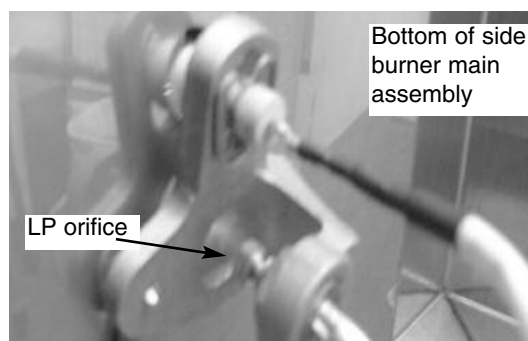

Fig 10
17. From the bottom of the side burner place the LP orifice into the main burner assembly, finger tighten. (See Fig. 10)